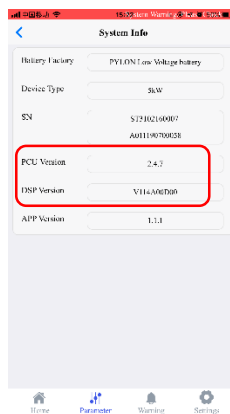

Figure 4-12
6. Check the version of the software. (Figure 4-12)